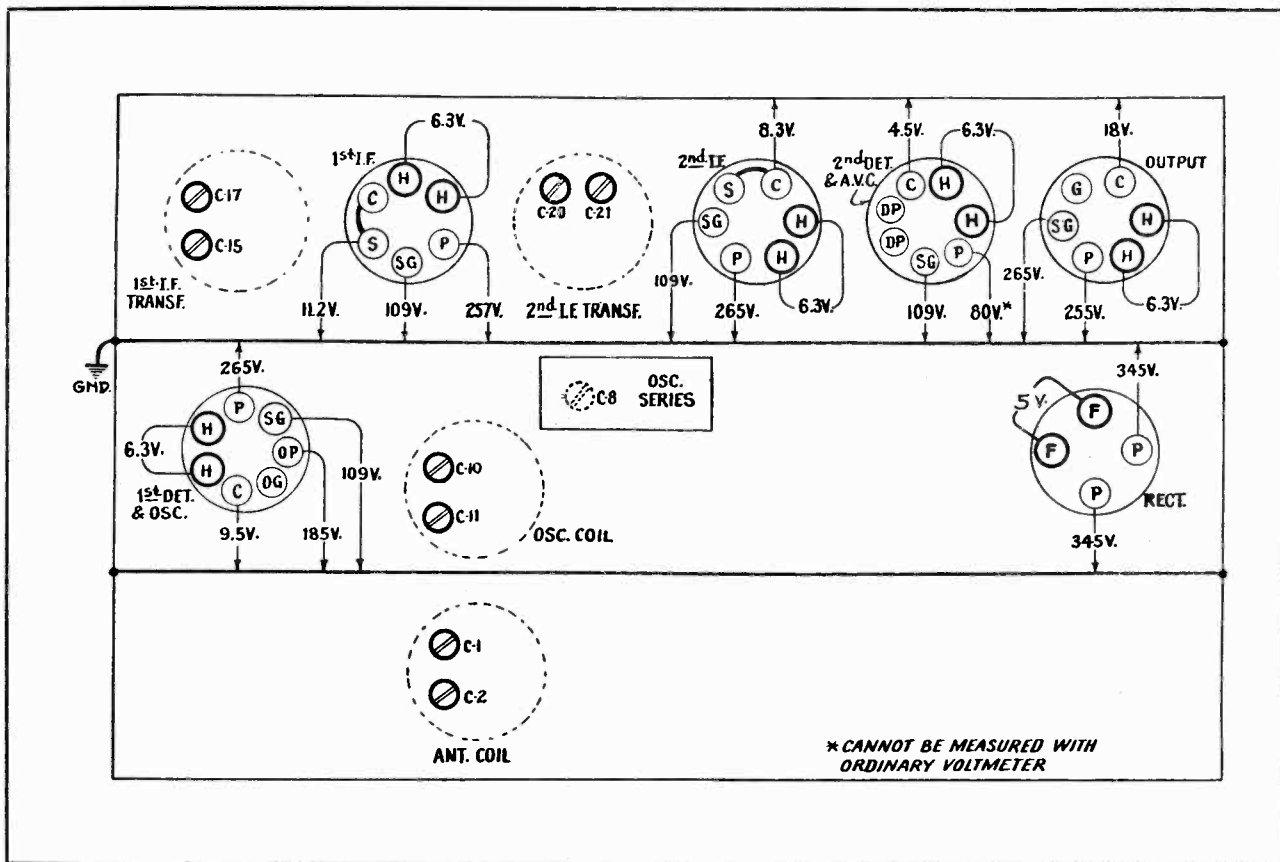

Figure 2—Trimmer Locations and Radiotron Socket Voltages to Ground (Measured at 115-volt A.C. Supply—Maximum Volume Control—No Signal)
The four i-f trimmer screws shown on Figure 2 must be tuned to 460 kc., as explained below:
The trimmer capacitor locations for the r-f and oscillator stages are indicated on Figure 2. Their adjustments should be performed as follows:
- With the external oscillator tuned to 1720 kc., and its output adjusted for the critical minimum at full volume control, set the station selector to the 1720 scale marking. Turn the range switch to its right position and adjust the trimmers C10 and C11 on Figure 2 to give
Refer to Figure 2. The voltages indicated at the various socket contacts are measured to the chassis.